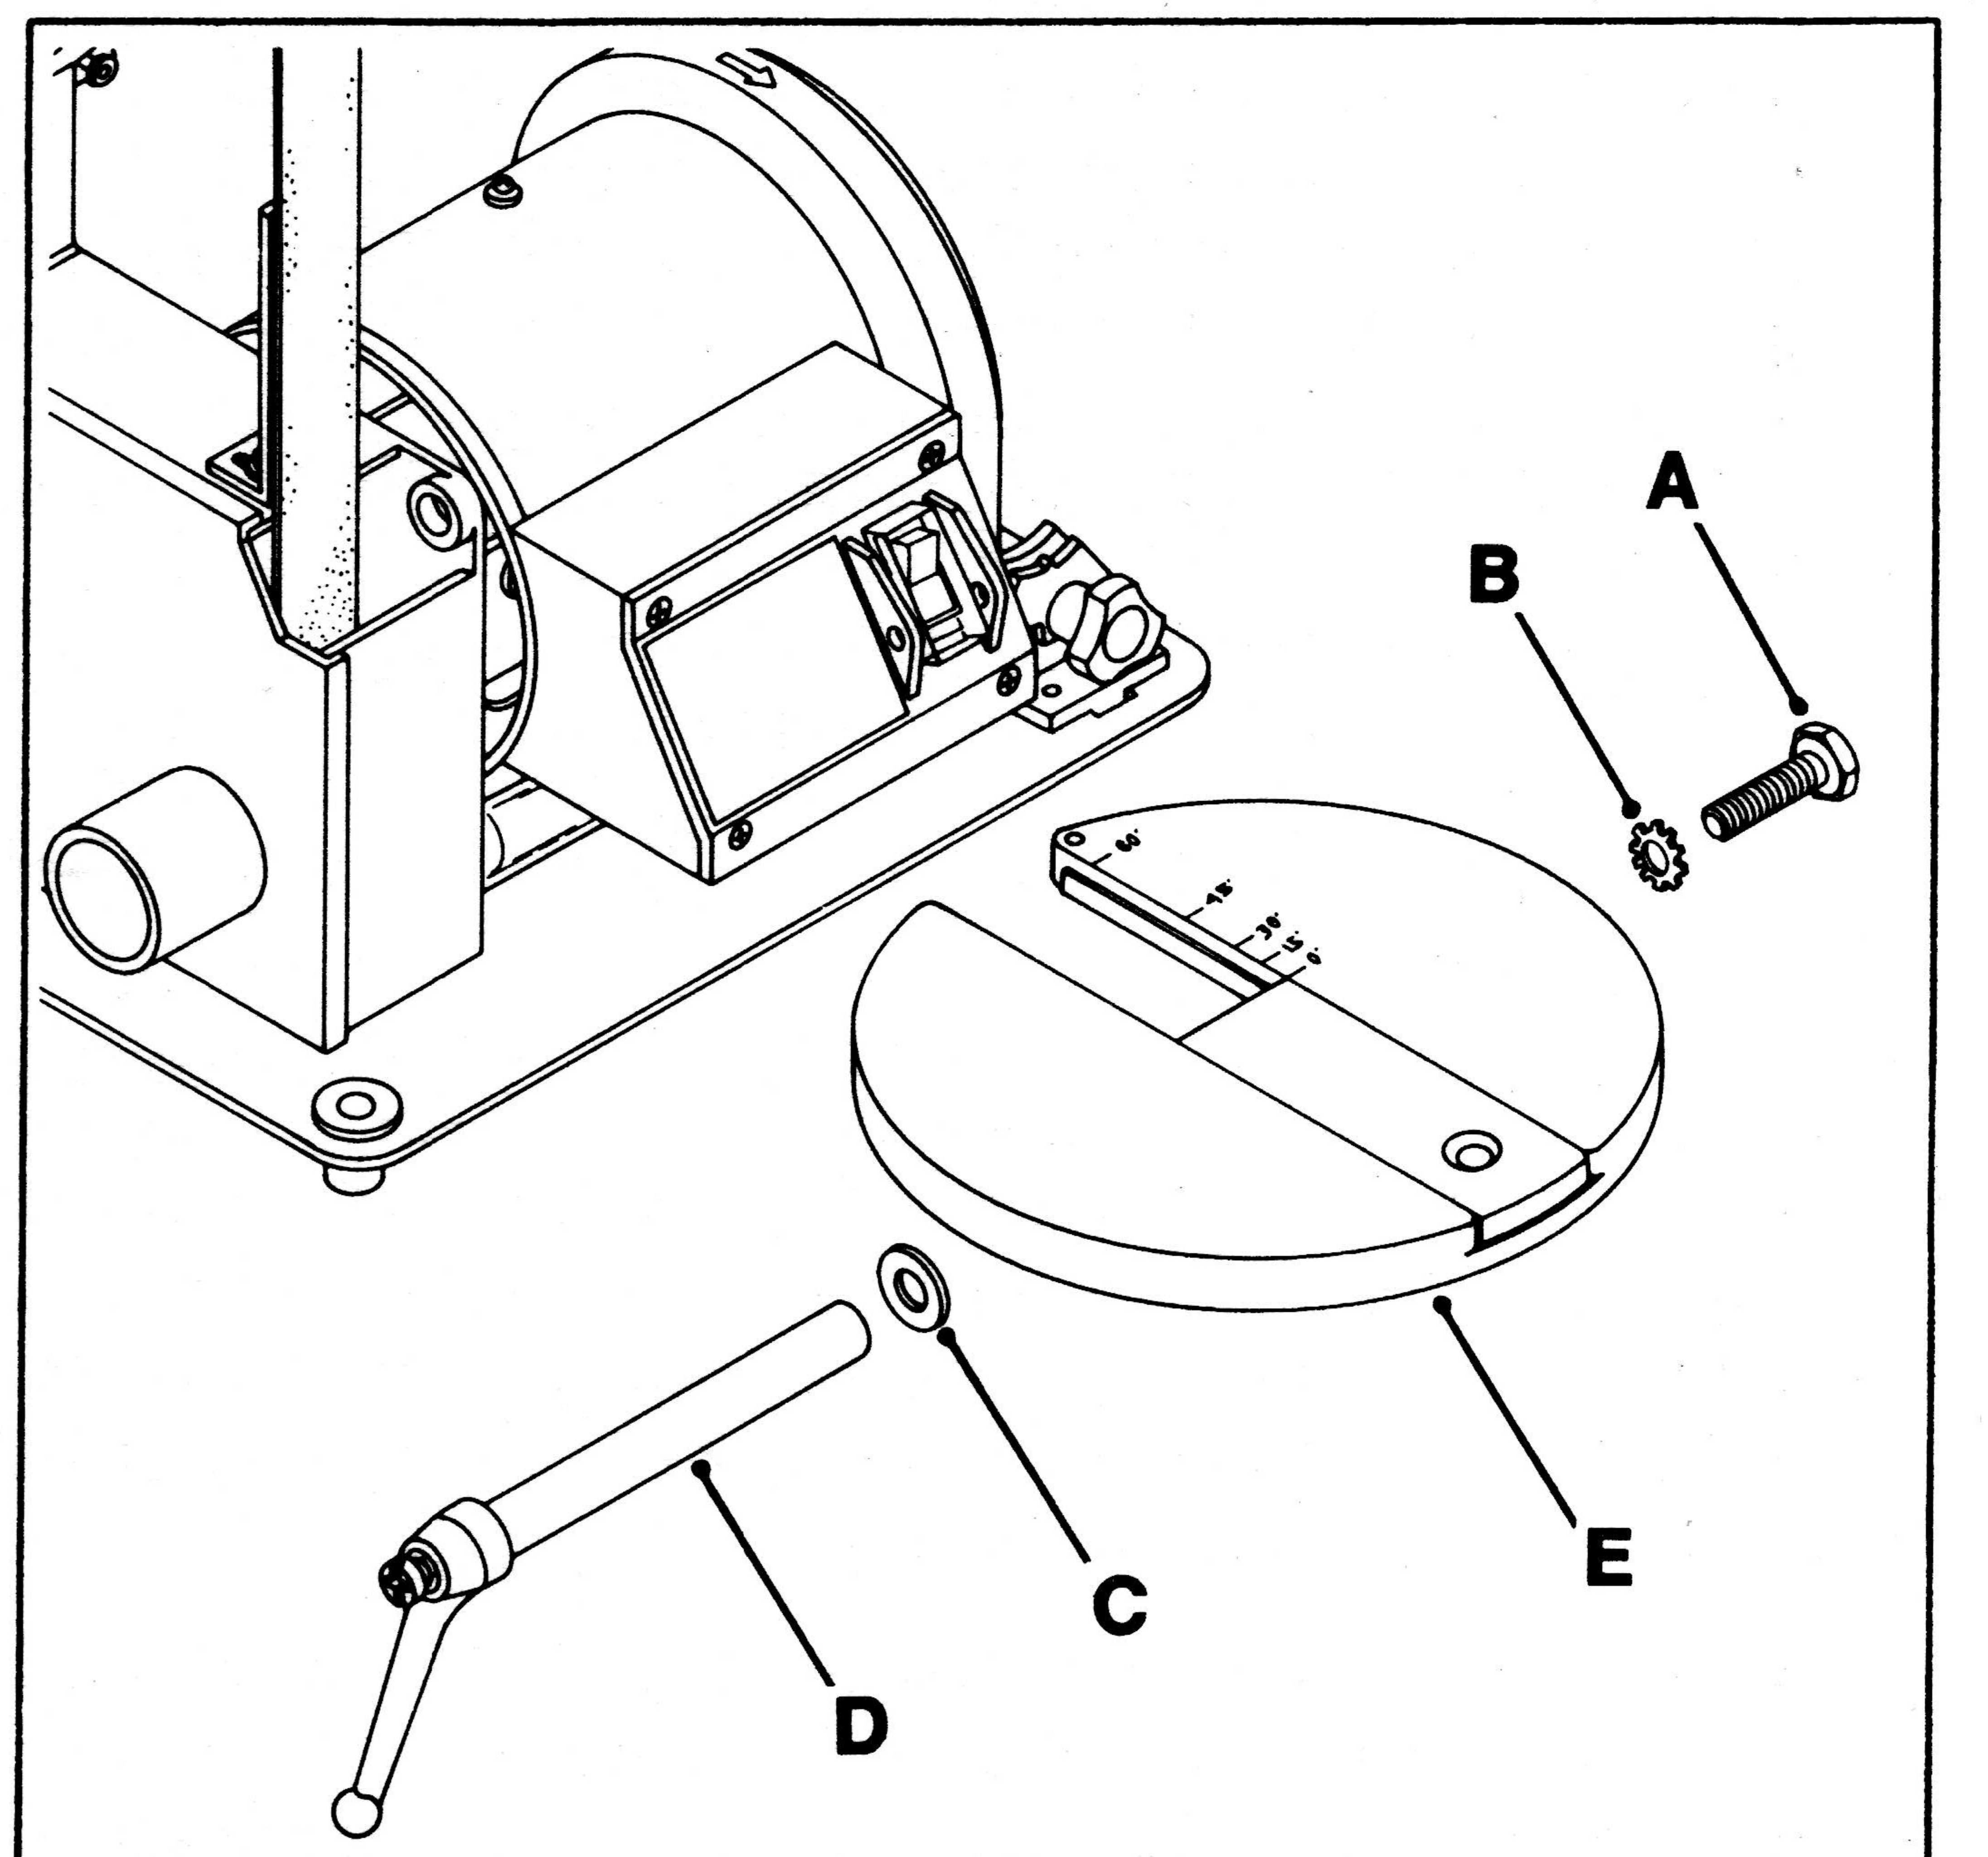

Fig. 2
1. Locate the 1-1/8" long screw (A) Fig. 2, star washer (B), flat washer (C), table locking handle assembly (D), and table (E).